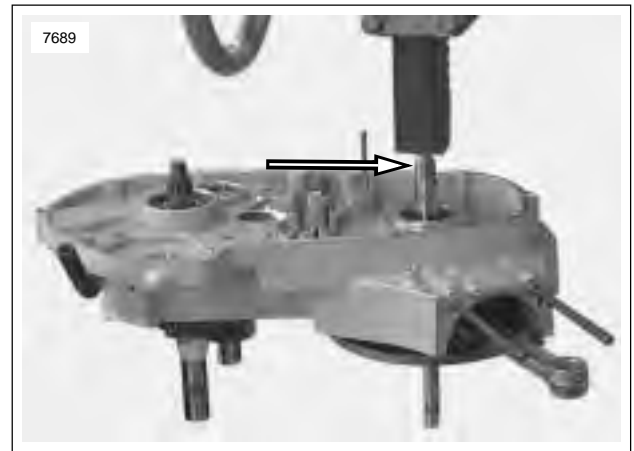

Figure 3-121. Pressing On End Of Sprocket Shaft To Remove Flywheel Assembly From Crankcase
9. See Figure 3-121. Mount the left crankcase half and flywheel assembly on a press table, supporting crankcase on parallel bars. Press on end of sprocket shaft with arbor press until flywheel assembly is free from crankcase half. Do not drive flywheel assembly from crankcase half as flywheels may be knocked out of alignment.